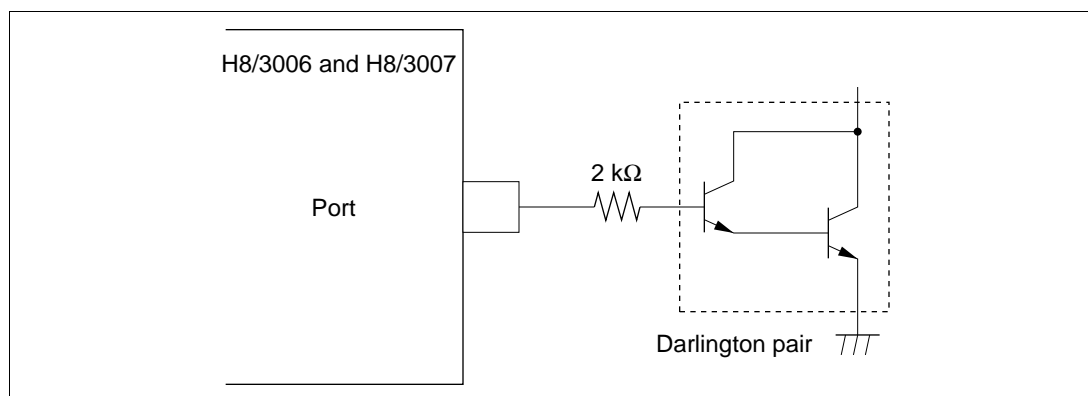

Figure 20.1 Darlington Pair Drive Circuit (Example)
2. When driving a darlington pair, always insert a current-limiting resistor in the output line, as shown in figures 20.1.